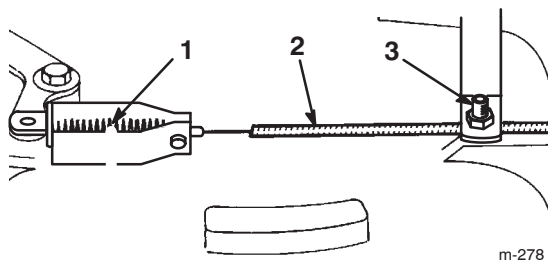

Figure 34
3. Loosen the cable clamp screw until the brake cable conduit slides (Fig. 34).